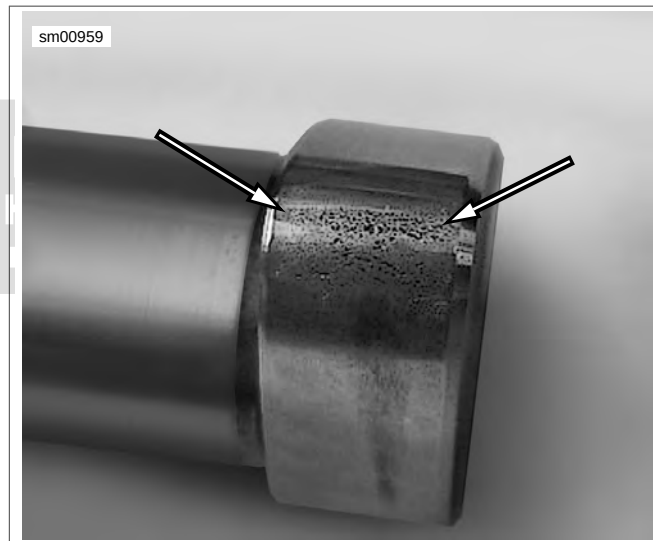
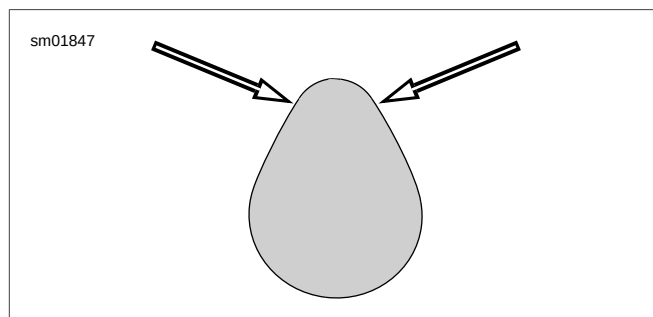

Figure 1-55. Camshaft Toe Spalling (unacceptable)
Figure 1-56. Maximum Spalling Area
- See Figure 1-55 and Figure 1-56. If camshaft lobe exhibits spalling that extends fully across the width of the camshaft lobe or extends past 15 mm (0.59 in.) beyond the toe of